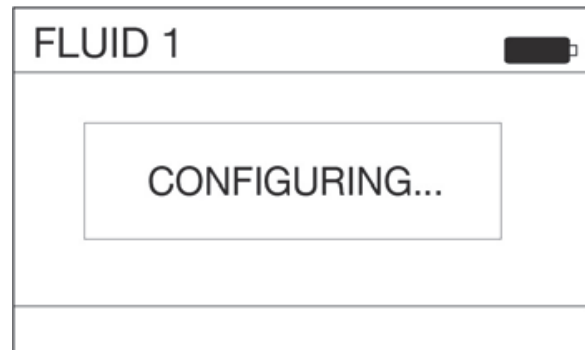

FIG. 56
2. Hold the profile tag to the display. When the profile tag is valid, a CONFIGURING (FIG. 56) message appears on the display.